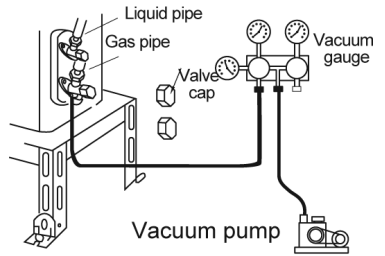

Fig. 5
8. Tighten bonnet of low-pressure valve. (As shown in Fig. 5)